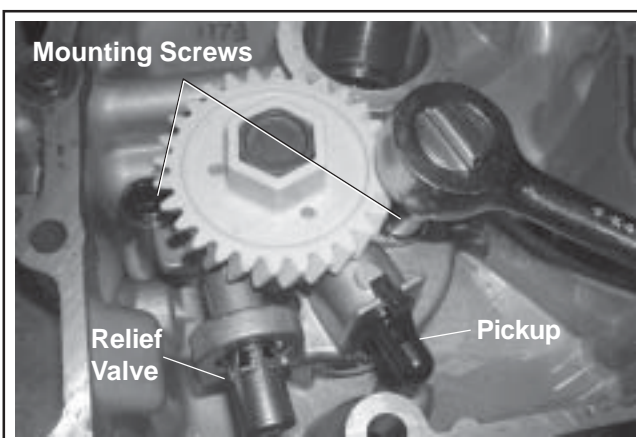

Figure 10-15. Removing Oil Pump.
3. Remove the oil pump rotor. If a plastic pickup is used (See Figures 10-15 and 10-17), unhook the locking clip, and carefully pull it free from the oil pump housing.
If the relief valve is a one-piece style, staked to the oil pump housing (See Figures 10-15 and 10-17), removal should not be attempted, nor is internal servicing possible. If a problem with the relief valve is encountered, the oil pump should be replaced.